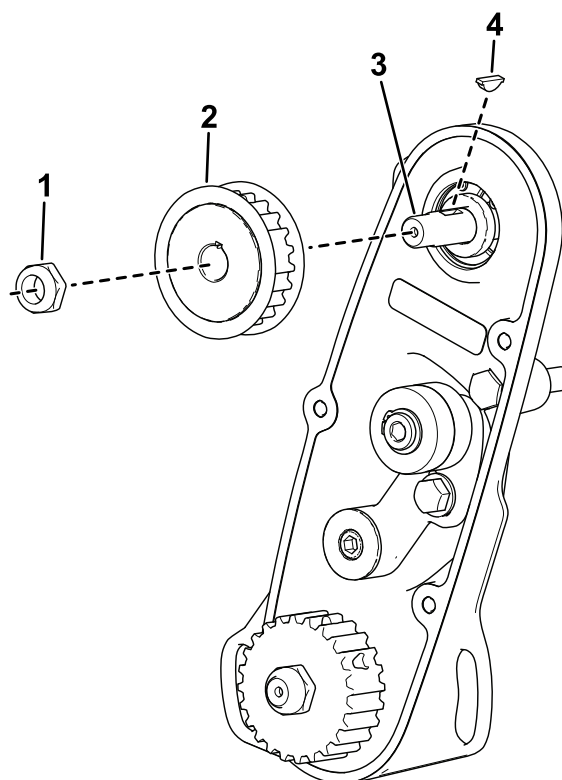

Figure 6
2. Install the key into the driveshaft keyway (Figure 6).
3. Install the pulley (Figure 6).
4. Use the nut to secure the new reel driveshaft to the assembly (Figure 6).